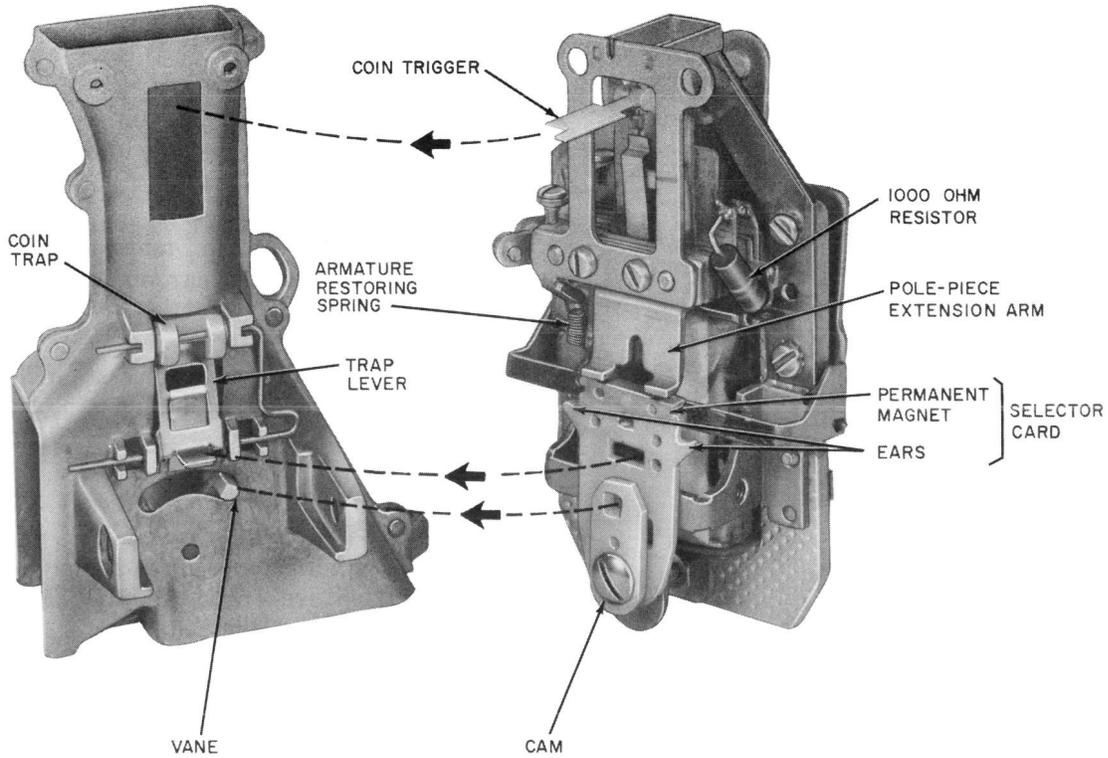

Fig. 14 — Coin Hopper and Rear View of Coin Relay
- (1) Move vane to left.
- (2) With trigger tripped, place relay on hopper.
- (3) Slide relay back until trigger enters opening in hopper and trap-lever tab enters slot in selector card (Fig. 14).
- (4) Close armature manually by pressing downward on ear on left side of selector card.
- (5) Slide relay back, vane stem should enter hole in cam and mounting screw holes should line up.
- (6) Replace mounting screws.
- (7) Trigger should have some end play and armature, trap, and vane should operate and release without binding.
- (8) If trigger binds, loosen upper mounting screws.
- (9) If trigger is free with upper mounting screws loose, retighten screws evenly.
- (10) Replace relay if trigger still binds.